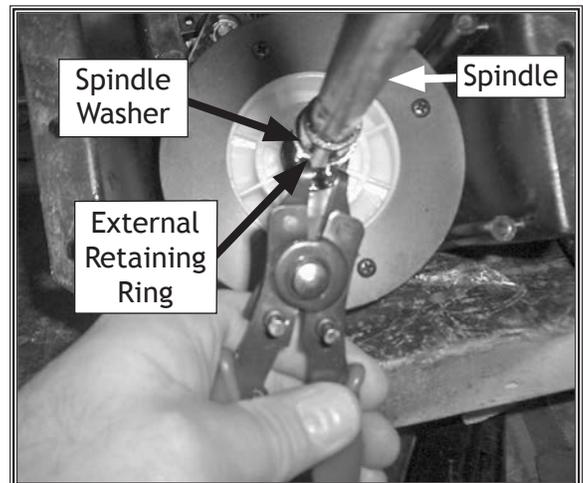

Figure 21. Removing external retaining ring and washer from spindle.
10. Remove 17mm external retaining ring (#50) and spindle washer (#51) from spindle (#55), as shown in **Figure 21**.